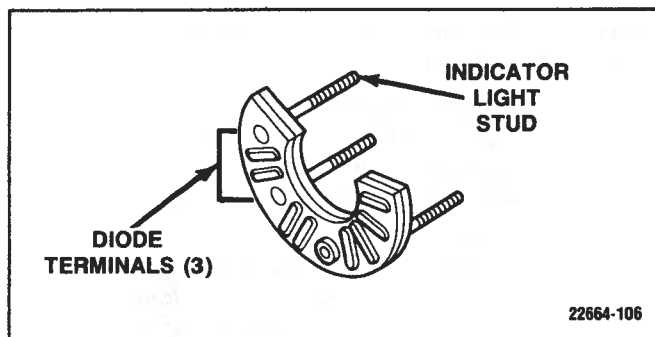

Figure 6-131. Diode-Trio Assembly
- a. Using a commercial diode tester, a 12-volt DC test lamp or an ohmmeter, check the resistance between each of the three diode terminals and the indicator-light stud as shown. (Figure 6-131)